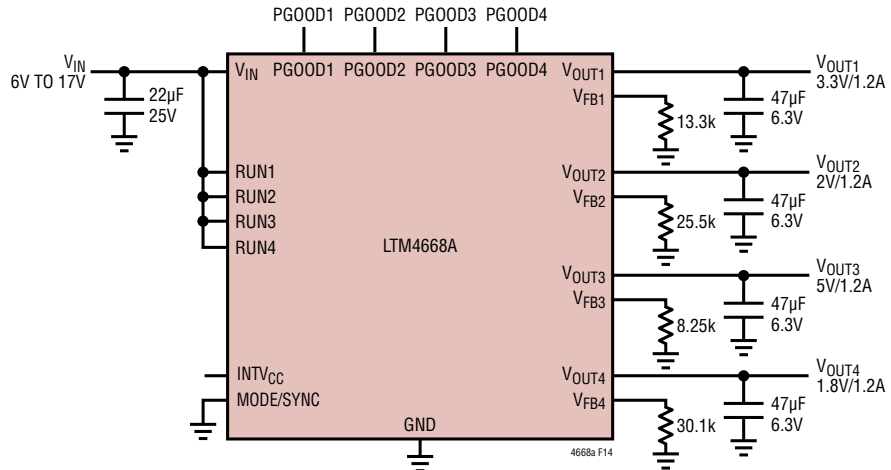

Figure 14. 6V to 17V Input, 3.3V, 2V, 5V, 1.8V Output at 1.2A Design
**Table 8. Output Voltage Response vs Component Matrix (Refer to Figure 14) 0A to 0.3A Load Step Typical Measured Values**